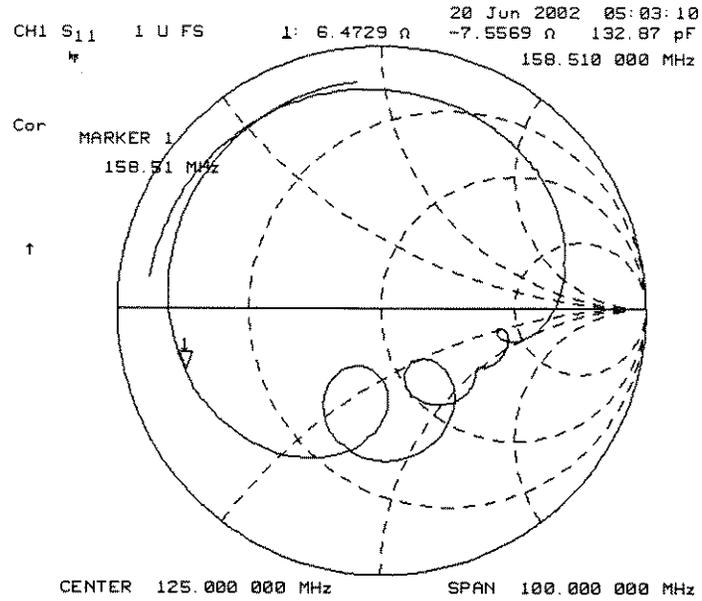

Figure 2-15. Example Impedance Measurement Trace
2. Press **MARKER** **MARKER MODE MENU** **SMITH MKR MENU** and turn the front panel knob to read the resistive and reactive components of the complex impedance at any point along the trace, as shown in Figure 2-15. This is the default Smith chart marker.